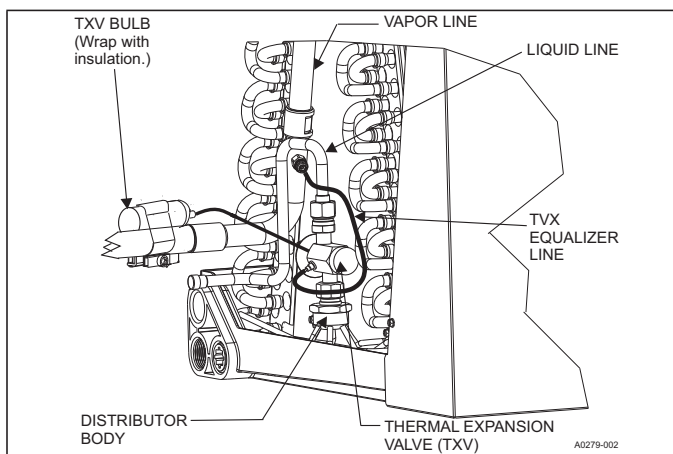

FIGURE 12: TXV Bulb and Equalizer line Installations
6. Install the TXV equalizer line onto the vapor line by hand tightening the 1/4" SAE coupling nut to the equalizer fitting, and apply an additional 1/3 turn to seal. See Figure 12.
8. Install the TXV bulb to the vapor line near the cabinet, using the bulb clamp(s) furnished with the TXV assembly. Ensure the bulb is making maximum contact. See Figures 12 & 13, and accomplish the following: